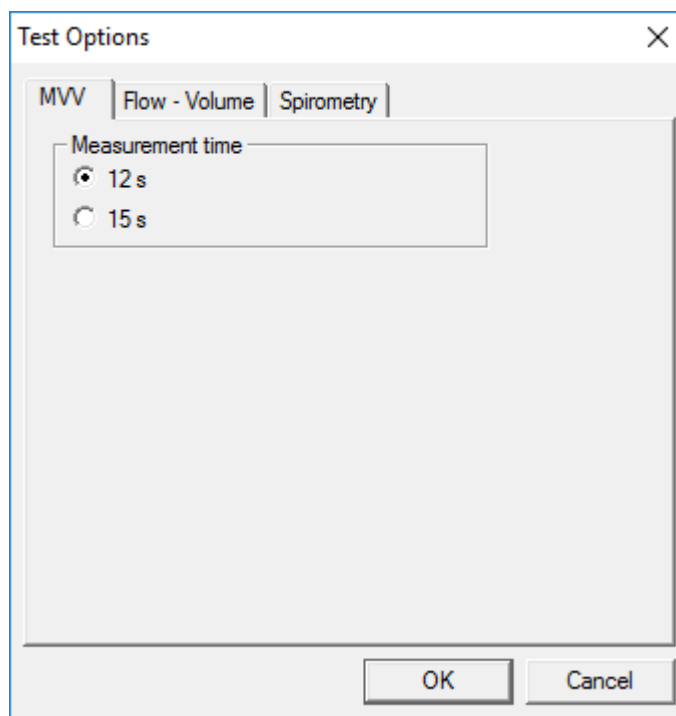

Fig. 12. Dialogue box *Test options – MVV*.
Test options are available at *MVV* fold (⇒Fig.12) of *Test options* box (⇒ Chapt. 3, item 2).